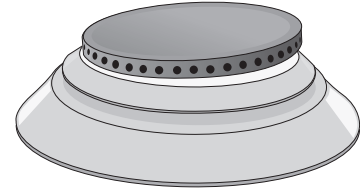

**Figure 26**
- 2** Place each burner cap on the matching burner ring. The cap for each burner has an inner locating ring which centers the cap correctly on the burner ring. Be sure that all the burner caps and burner rings are correctly placed BEFORE using your appliance. (See Figure 26)